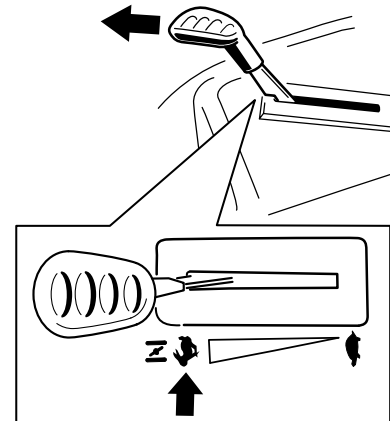

Figure 19
**Note:** Always engage the blades with the throttle in the FAST position (Figure 19).